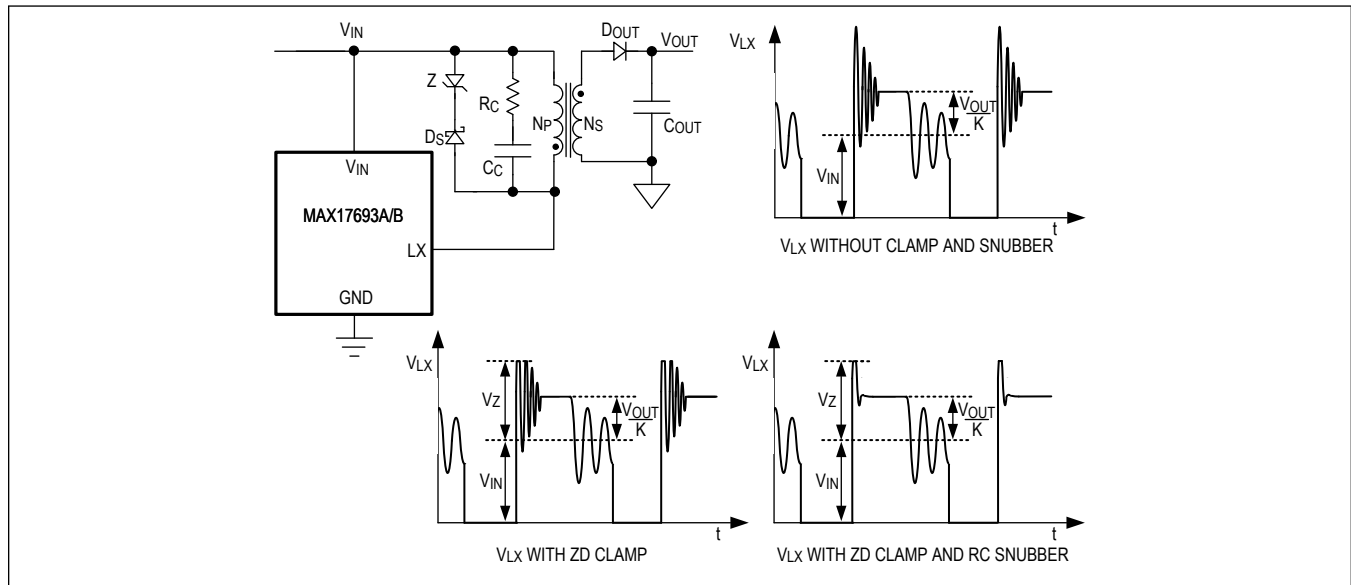

Figure 9. Voltage Clamp Circuit
A simple Zener-diode (ZD) clamp can be used as a voltage-clamp circuit. Figure 9 shows the operating waveform of the ZD clamp. Ideally, the ZD breakdown voltage should be selected to be the same as the  $V_{CLAMP}$ . However, in practice, the ZD breakdown voltage should be 5V to 10V below the  $V_{CLAMP}$  to accommodate any additional voltage spike due to parasitic inductance in the clamp-circuit path, such that the LX voltage does not exceed 76V. A 0.25W power rating ZD satisfies most applications.